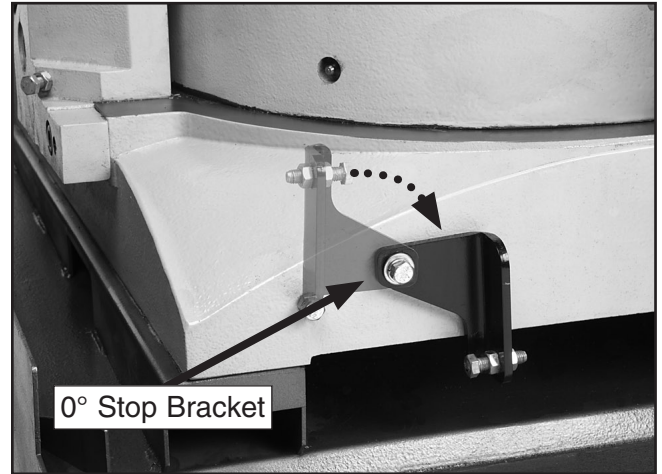

Figure 25. 0° stop bracket.
3. Locate the 0° stop bracket and swivel it out of the way, as shown in Figure 25. This will allow the bow to rotate past 0°.